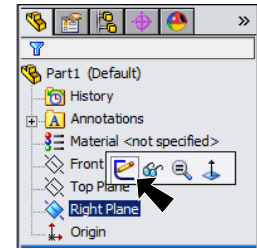

Fig. 1
Step 2. Click **Right Plane**  in the Feature Manager and click **Sketch**  from the Content toolbar, **Fig. 1**.
Step 3. Click **Line**  (L) on the Sketch toolbar.